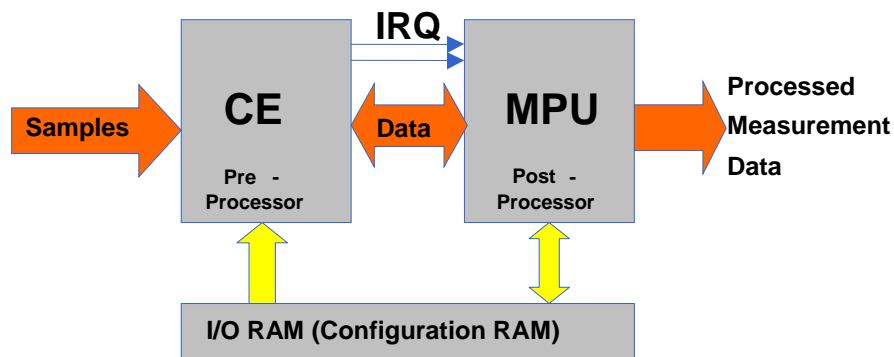

Figure 5: MPU/CE Data Flow
The data flow between CE and MPU is shown in Figure 5. In a typical application, the 32-bit compute engine (CE) sequentially processes the samples from the voltage inputs on pins A0, A1, A2, and A3, performing calculations to measure active power (Wh), reactive power (VARh), A^2h , and V^2h for four-quadrant measurements. These measurements are then accessed by the MPU, processed further and output using the peripheral devices available to the MPU.